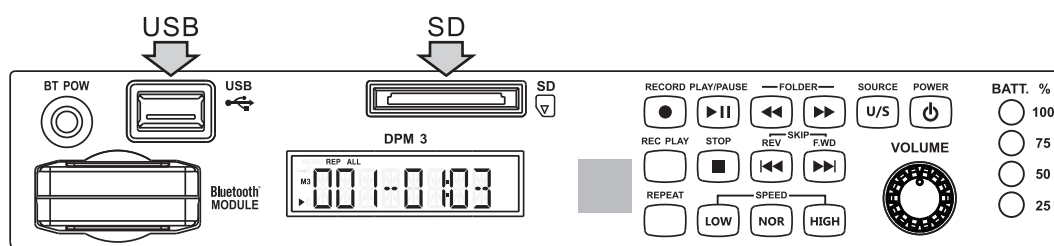

Fig. 5
(A) Media slots. Fig. 5:
- (1) USB flash drive: Insert USB 2.0 into the USB slot for playing MP3 / WMA / FLAC / APE / WAV / M4A / AAC / OGG files.
- (2) SD card: Insert an SDHC card with the label facing downward into the slot. Press it again to eject the card.
- (3) Format USB and SD card before playback. The format standard is FAT 32.
- (4) Press the SOURCE button (U: USB, S: SD card) to select USB or SD card. USB plays first before the SD card.
- (5) NO DISK displays when there is no USB or SD card insert to the slot, or is unable to detect or read a media source.